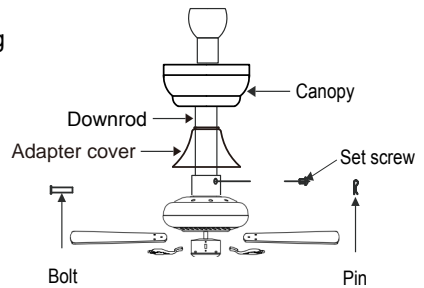

Fig. 4
**Step 1.** Assemble the canopy and adapter cover as Fig. 4.
**Step 4.** Align the holes at the bottom of the downrod with the holes in the collar on top of the motor housing (Fig. 4). Carefully insert the bolt through the holes in the collar and downrod. Be careful not to jam the bolt against the wires inside the downrod. Insert the pin to the end of the bolt (Fig. 4).